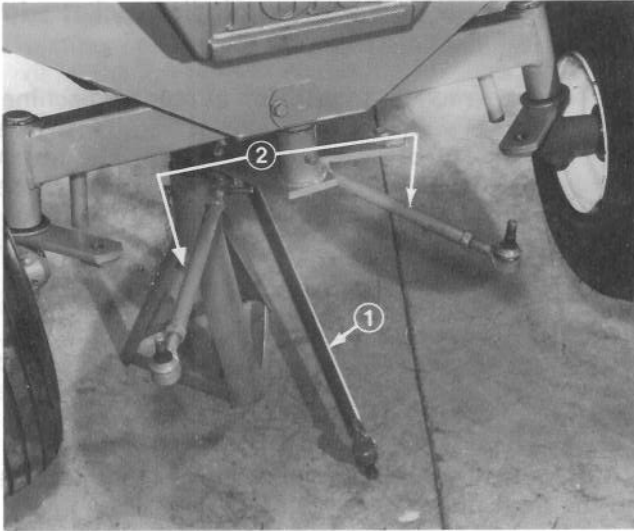

Figure 44
1. Remove cotter pin and slotted nut from tie rod end connecting steering tube to steering plate. Separate tie rod end from steering plate bracket (Fig. 44).
2. Remove cotter pins and slotted nuts from tie rod ends connecting tie rods to wheel spindle brackets. Separate tie rod ends from both spindle brackets (Fig. 44).